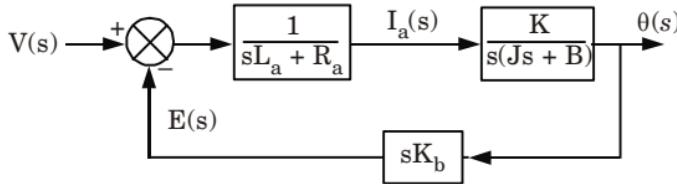

Fig. 1.6.2.
9. Block diagram is shown in Fig. 1.6.2.